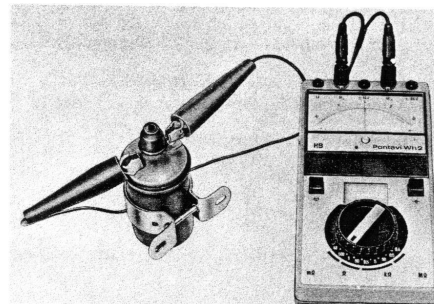

Fig. 6
4. The ignition voltage transformer can be tested only with an ohmmeter. Remove all connections from ignition voltage transformer. Measure the resistance in the primary coil between terminal 1 and 15. The value must be between 0.4 and 0.6 ohms. Measure the resistance in the secondary coil between terminals 1 and 4. This value should be 650 - 790 ohms (Fig. 6).